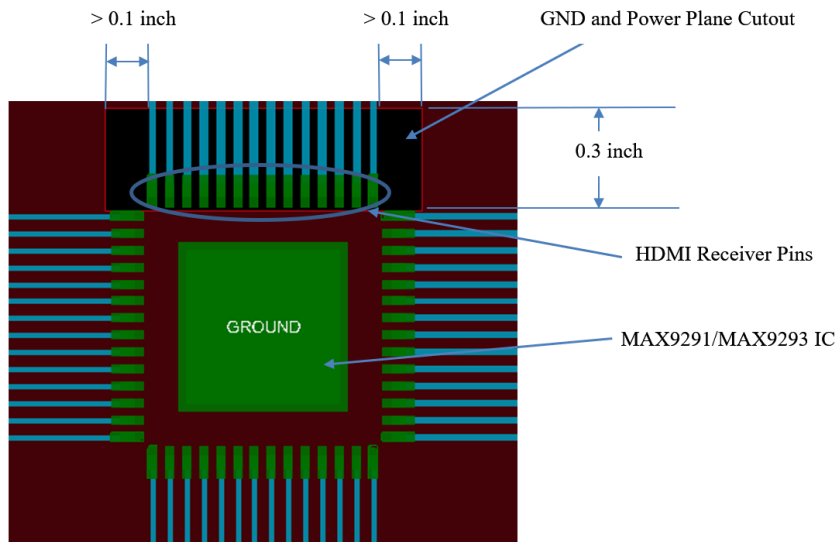

Figure 16. Ground and Power Plane Cutout
- Cut out any GND and power copper planes minimum of 45mils below traces at the HDMI receiver (HDMI serializer). See Figure 16 for dimensions.